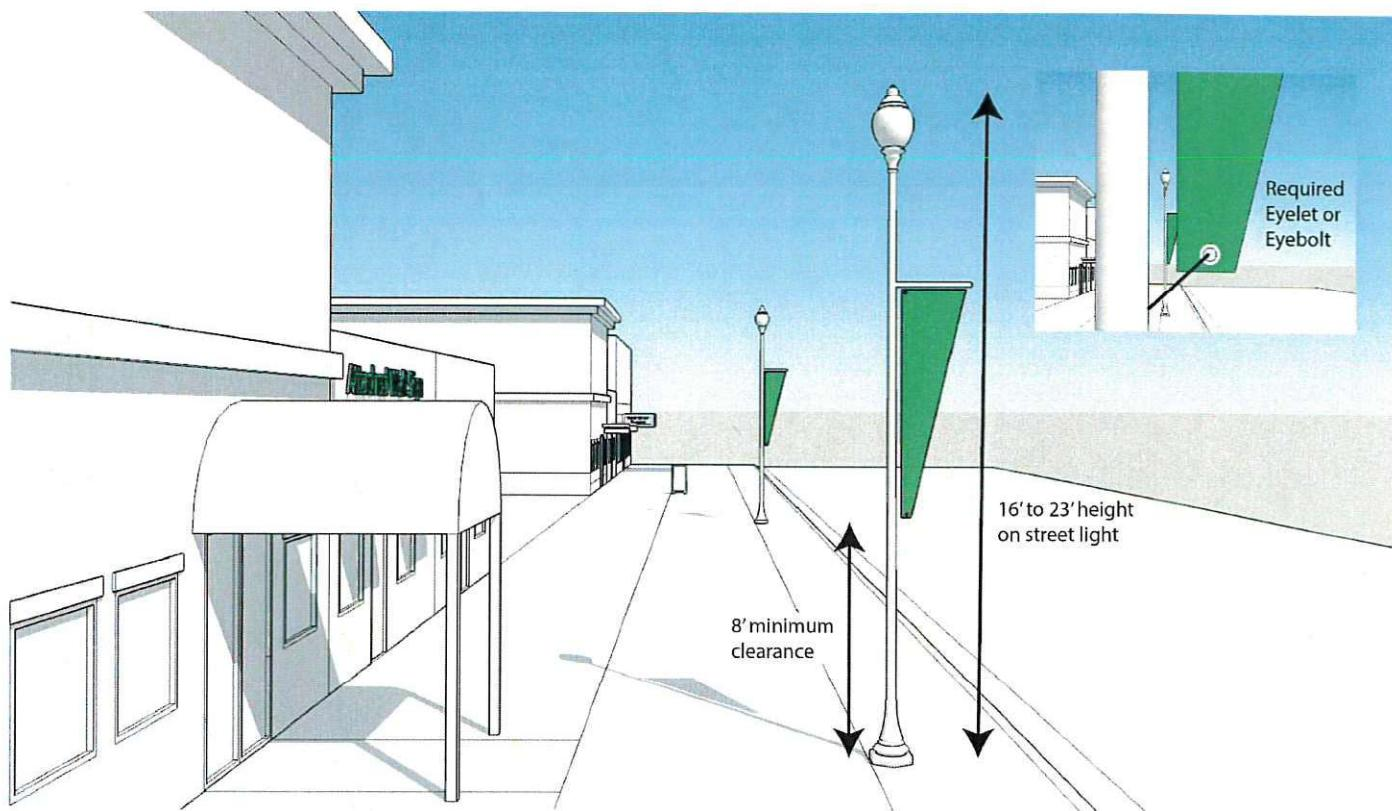

Figure 21
- c. The maximum sign area shall be limited to twenty-four (24) square feet.
- a. Banners may be attached to banner arms on light standards between sixteen feet (16') and twenty-three feet (23') in height within the MCCD Zone (*See Figure 21*).